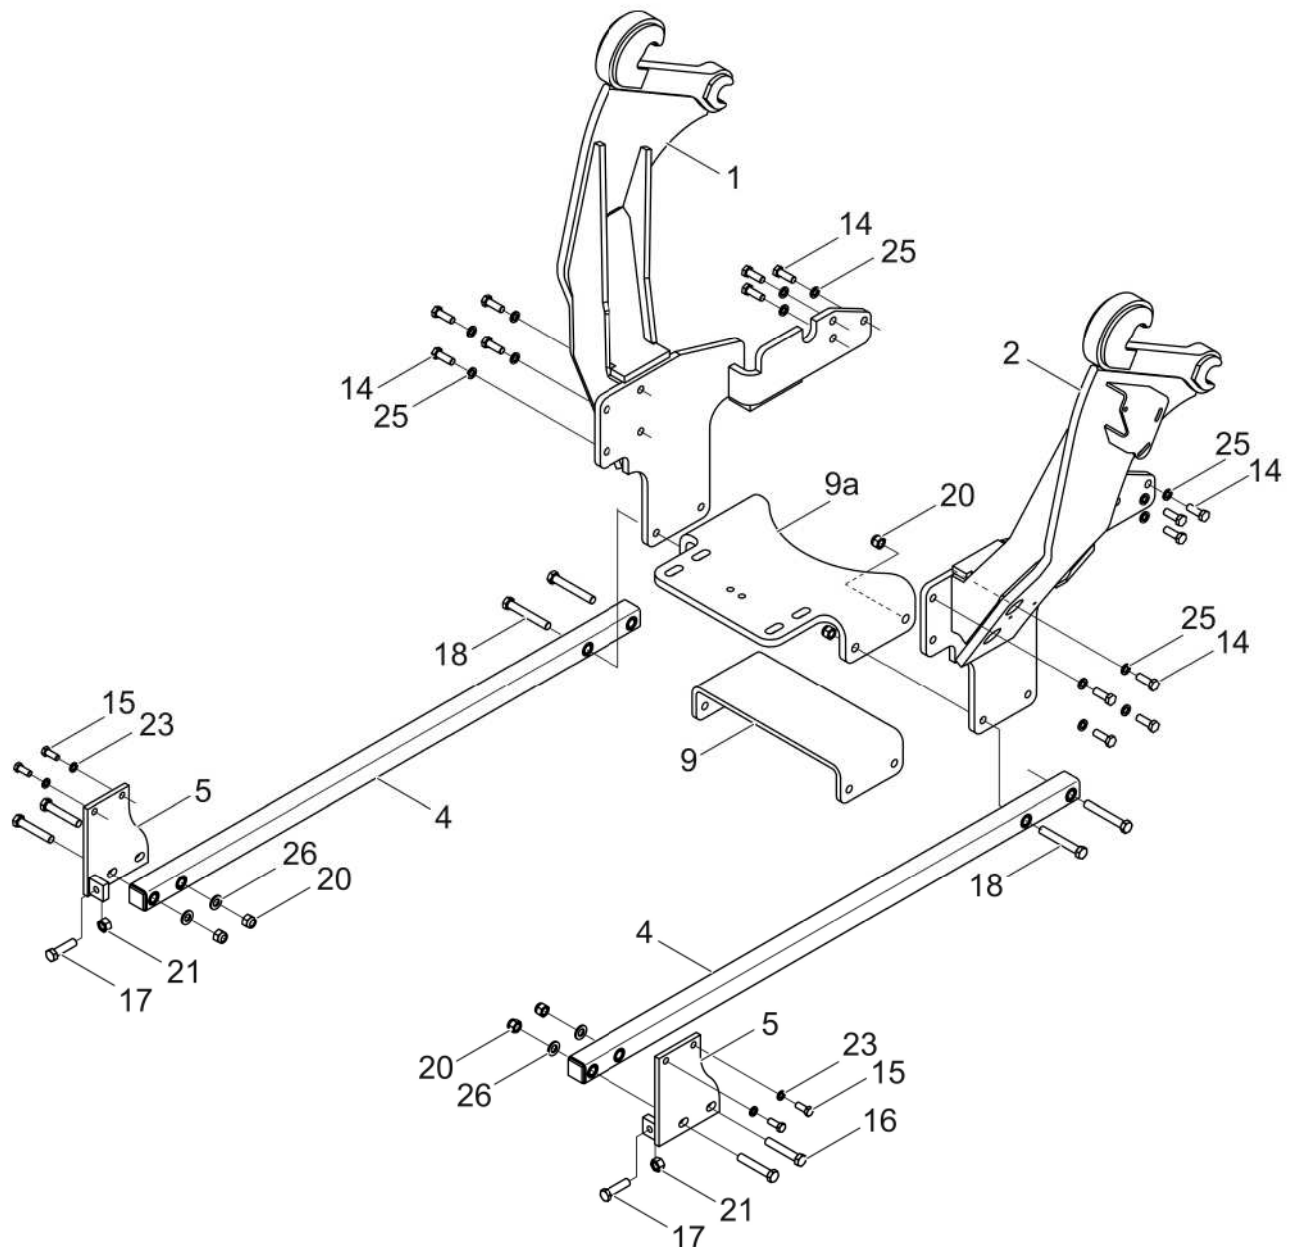
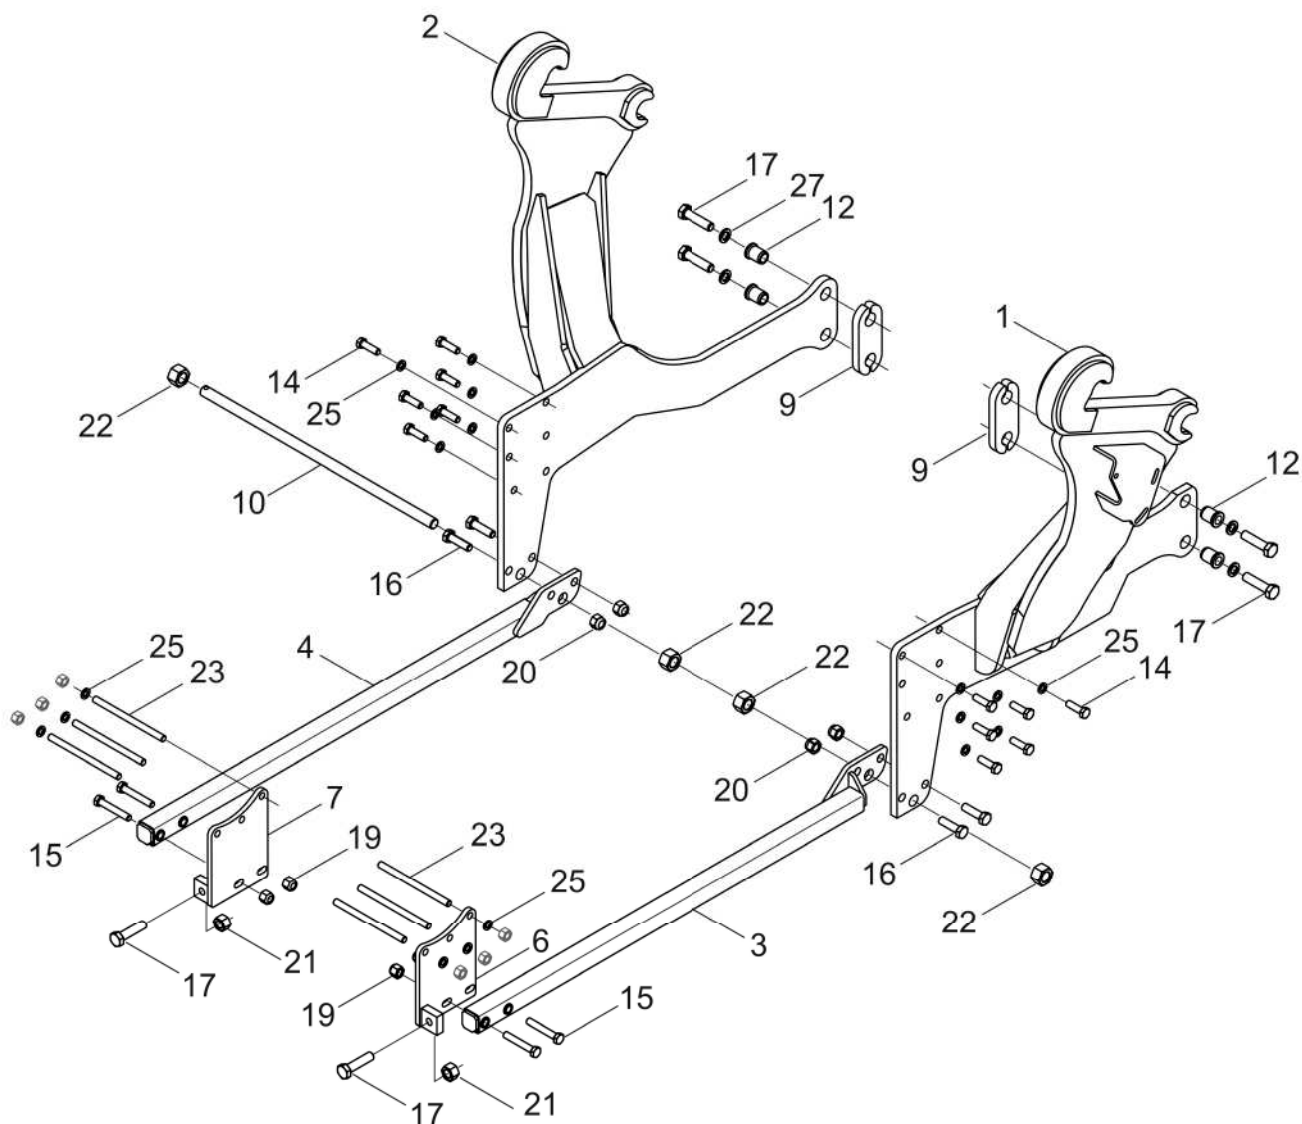
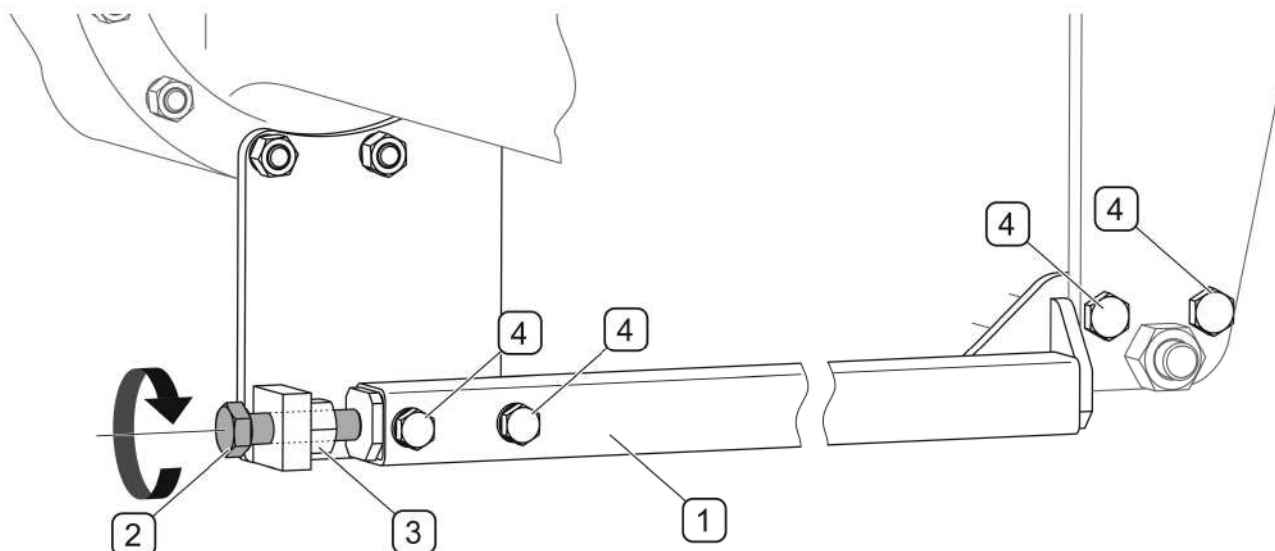

FIG. 4.1A Mounting support frame on KIOTI dk551C tractors
FIG. 4.5A Mounting support frame on Zefir 40/40K tractors
FIG. 4.6A Tensioning the supporting frame beam system
In the KIOTI DK551C tractors, remove the air pressure regulator and hydraulic hoses bracket before beginning assembly. The front and rear of the brackets (1) and (2) (FIG. 4.1A) fix with bolts (14) and washers (25). Secure brace rods brackets (5) to driving axle using bolts (15) and washers (23). To the brackets (5), using bolts (16) with nuts (20) and washers (26) fix brace rods (4), whose front part must be bolted to brackets (1) and (2) using bolts (18) and nuts (20). When bolting brace rods (4) with brackets (1) i (2) use suitable brackets (9) or (9a depending on tractor equipment options). Tension the brace rods system (FIG. 4.6A)
washers (23). Secure brace rods brackets(6) and (7) to driving axle using bolts (12) and washers (25) and (20). To the brackets (6) and (7), using bolts (23) with nuts (17) and washers (13) fix brace rods (4) and (5), whose front part must be bolted to brackets (1) and (2) using bolts (19) and (15), nuts (17) and washers (23). Tension the brace rods system (FIG. 4.6A)
The front and rear of the brackets (1) and (2) (FIG. 4.5A) fix using bolts (17) with washers (27) and spacer bushings (12). In tractors without front three-point linkage, apply spacer plates (9). Fix the rear part of the brackets (1) and (2) using the bolts (14) and washers (25). Secure brace rods brackets(5) and (6) to driving axle using stud bolts (23) and the existing tractor nuts. To the brackets (5) and (6), using bolts (15) with nuts (19) fix brace rods (4), whose front part must be bolted to brackets(1) and (2) using bolts (16) and nuts (20). Using securing rod (10) bolt brackets (1) and (2) and secure with nuts (22). Tension the brace rods system (FIG. 4.6A)